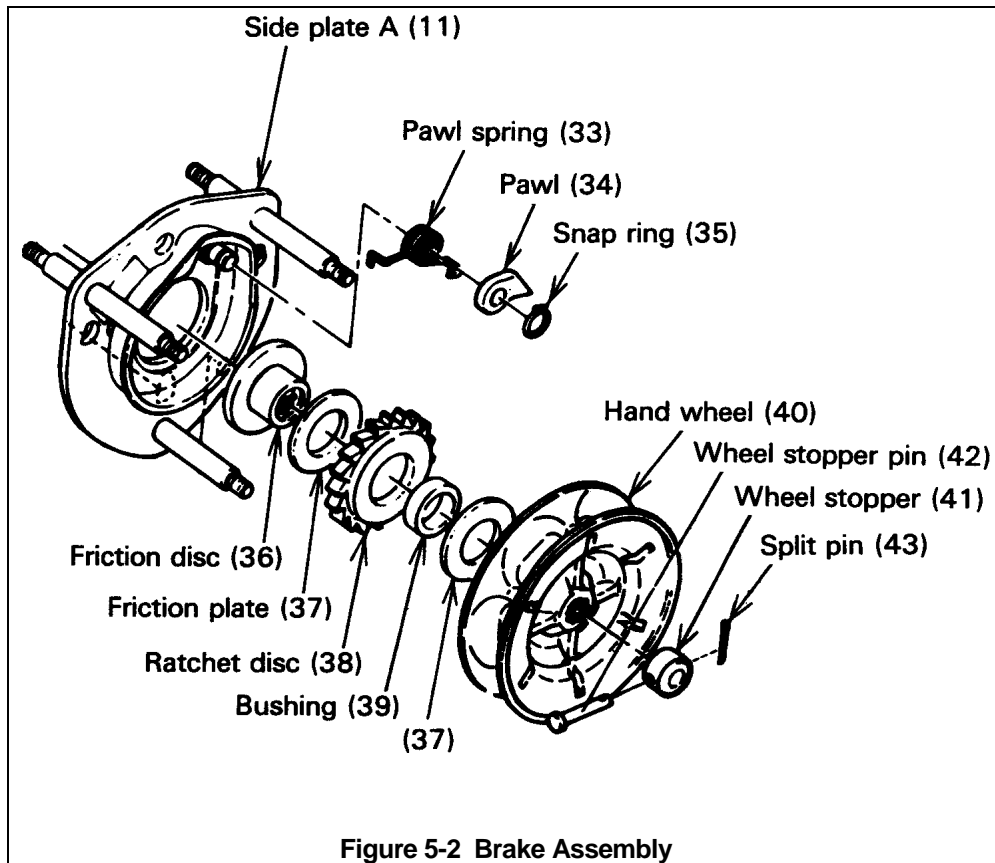

Figure 5-2 Brake Assembly
| Braking System – Components | Visual | Brake Pawl, Pawl Pin, and Pawl Spring should not be deformed, scarred, or show significant wear. Refer to Figure 5-2 (34 & 33). | Replace. |
| Brake – Damage to Brake Surface | Visual | Damage due to scratching or gouging by foreign matter. Refer to Figure 5-2 (37, 38, & 40). | Replace. |
| Braking System – Friction Disc | Visual | The surface of the friction plate should be free of scars, gouges, and wear. Refer to Figure 5-2 (36). | Replace. |
| Braking System – Bushing | Visual | When slightly heated, the bushing should be so lubricated that lubricant oozes off the surface. Refer to Figure 5-2 (39). Type of oil to be used: ISO VG68 or equivalent. | Soak bushing in machine oil for one day. |
| Braking System – Ratchet Disc | Measure | The “D” dimension should not be less than the discard value listed in Table 5-11. Refer to Figure 5-2 (38). | Replace. |